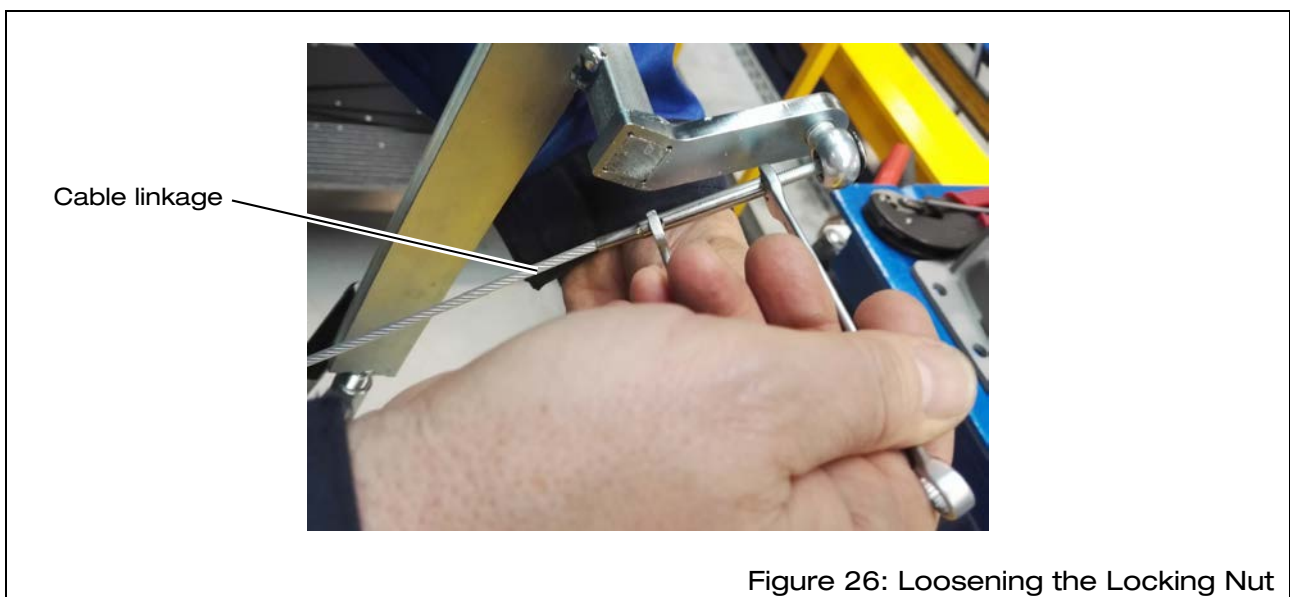

Figure 26: Loosening the Locking Nut
- ⇒ Loosen the locking nuts on the cable linkages on both sides (see Figure 26).